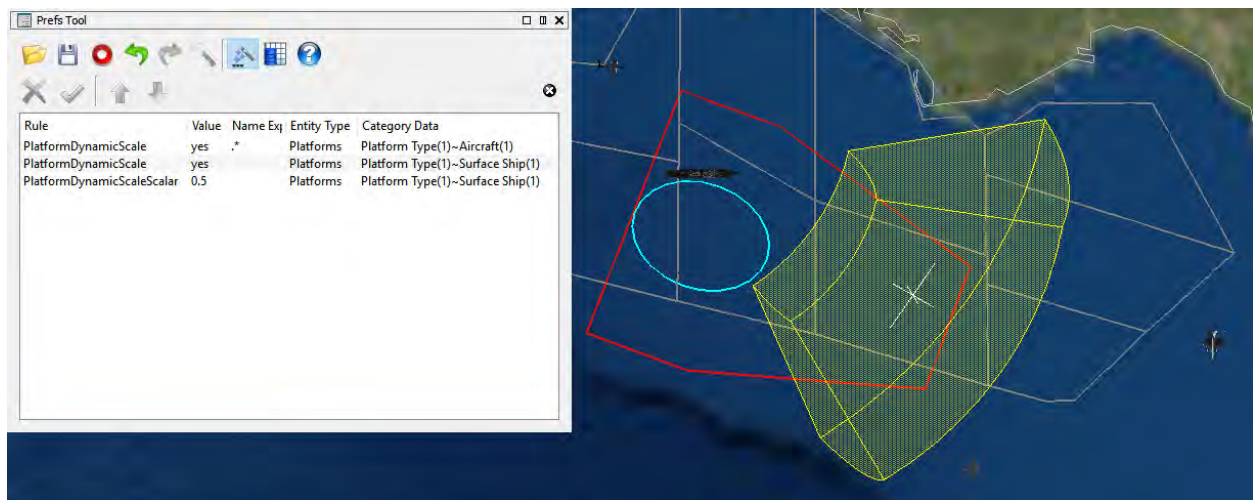

Figure 5.23: Appended Rules
29. Open the **Surface.rul** preference rule file. Observe the **Main Display**, you should be able to see the scaled **Aircrafts** and **Surface Ships**. Your display should look similar to Figure 5.23.